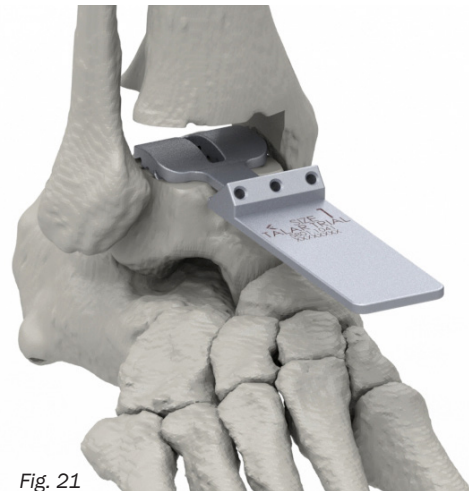

Fig. 21
- 2.1 Select the appropriate Talar Trial and ensure adequate ML & AP coverage (Fig. 21).